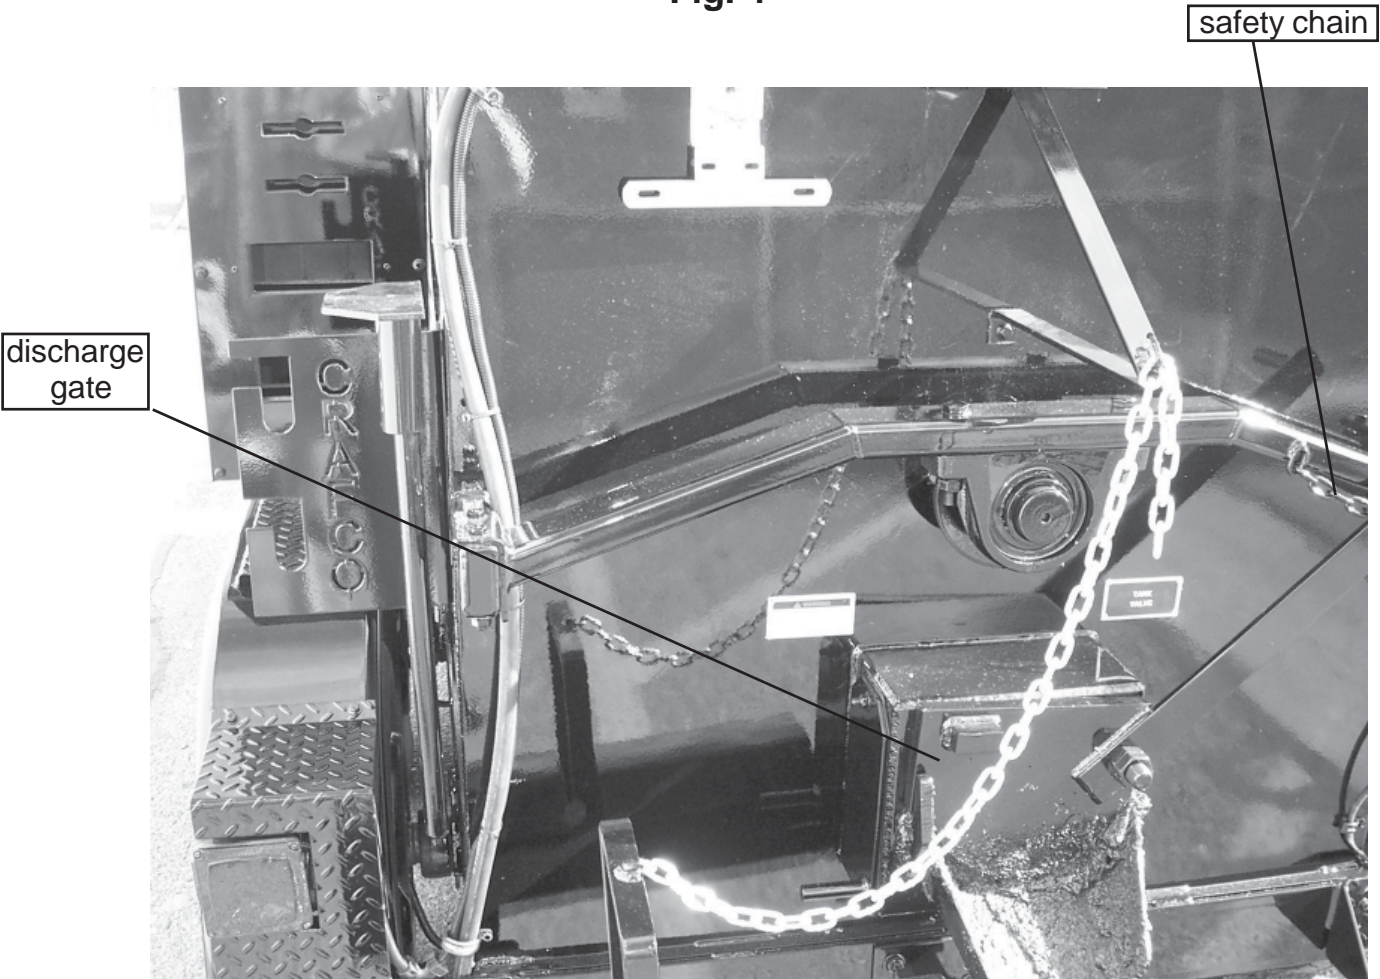

Fig. 2
5. The rear discharge gate should be in the closed position and the burner switch "OFF." (see Fig. 2)
**CAUTION:** Be sure discharge gate is completely closed after each draw off. Lock handle with safety chain if machine is transported (see Fig. 2).